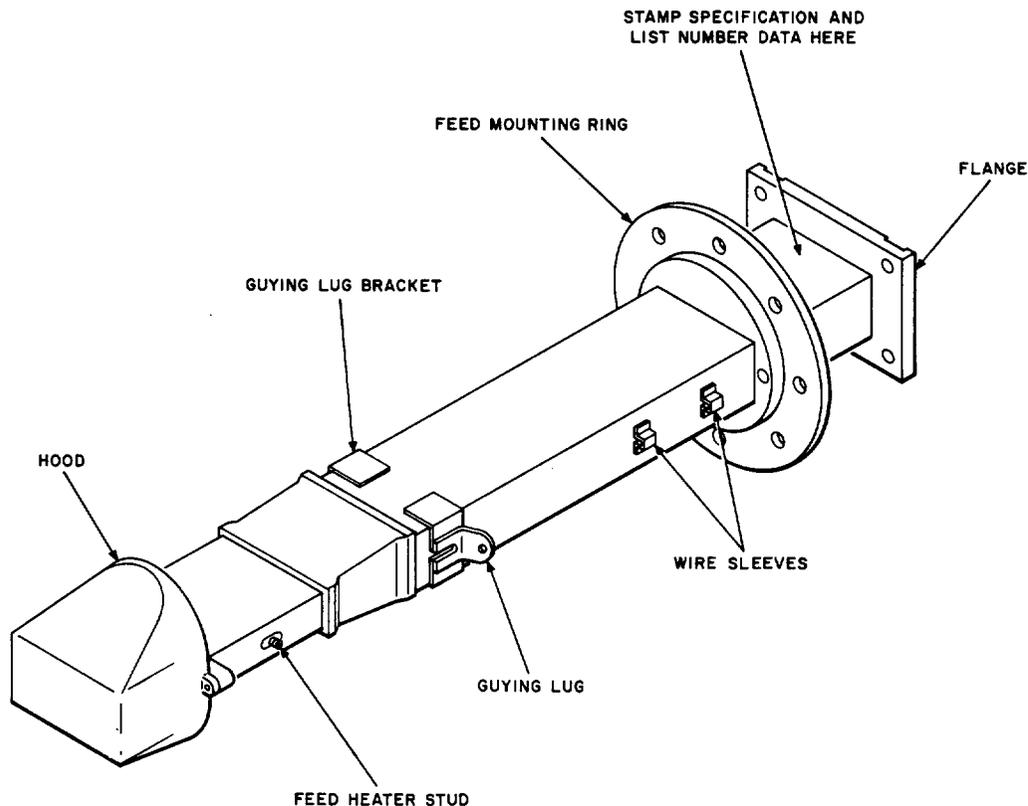
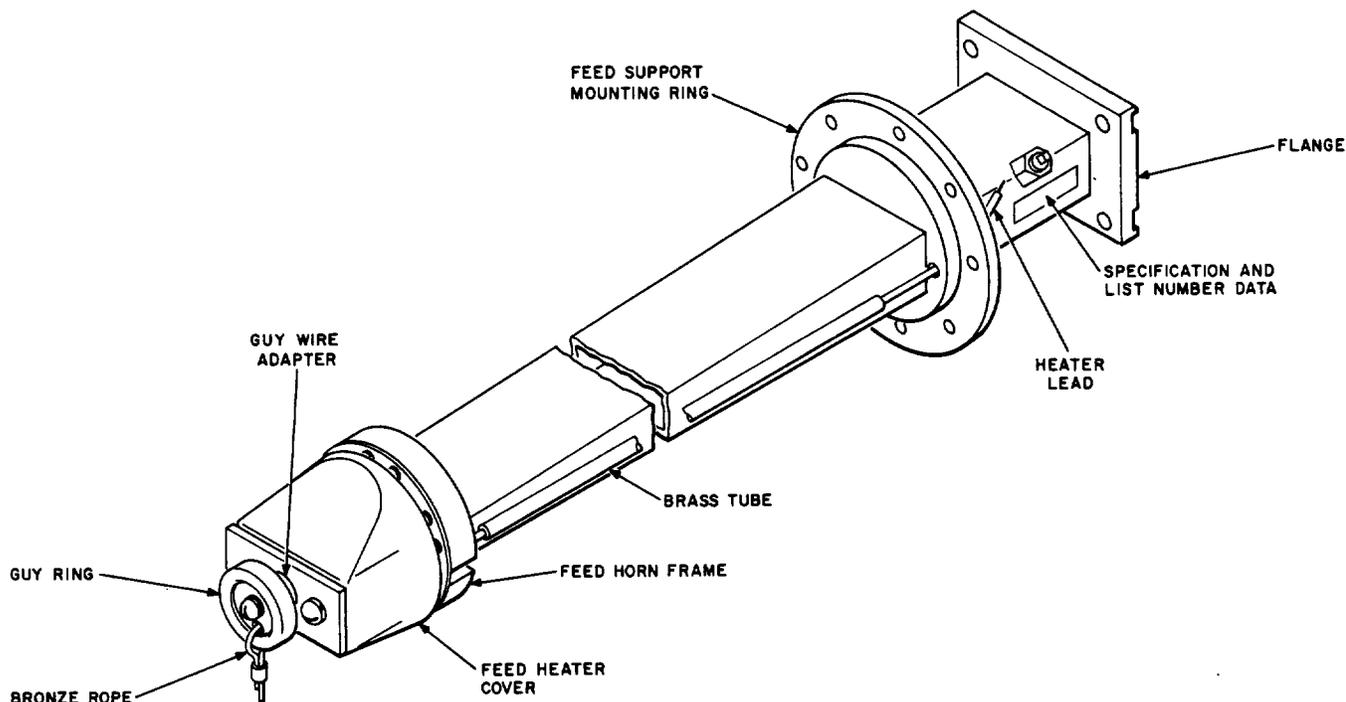
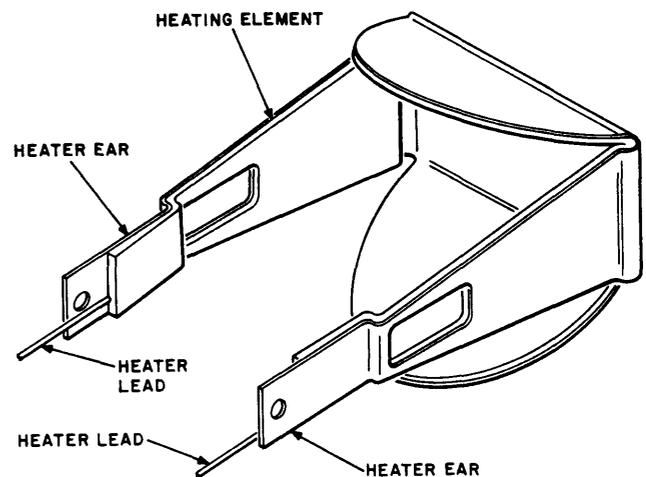
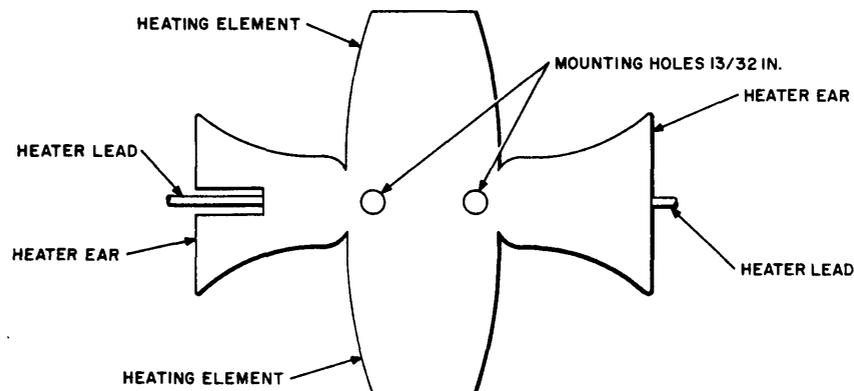

Fig. 6—Broadband Antenna Feed Assembly (Gabriel Electronics)
Fig. 7—Broadband Antenna Feed Assembly (Technical Appliance Corporation)
Fig. 11—Feed Heater Assembly (Gabriel Electronics)
Fig. 12—Feed Heater Element (Technical Appliance Corporation)
4.04 The feed assemblies are supplied by more than one manufacturer and there are minor differences in appearance. A Gabriel Electronics feed is shown in Fig. 6 and a Technical Appliance Corporation feed is shown in Fig. 7. The feeds are mechanically and electrically interchangeable with the following exceptions: The guy assemblies and feed heaters from one manufacturer cannot be used with another manufacturer's feed assemblies.
4.10 The feed assembly may be supplied by Gabriel Electronics or Technical Appliance Corporation (TACO). The guying assemblies used on the two feed assemblies, while similar in appearance, are different in length. The guy assembly attaches to the end of the Taco feed and approximately to the center of the Gabriel feed as shown in Fig. 6 and 7.
- (b) Pull the end of the loop in the tiller rope from the clamp and pass it through the guying lug on the antenna feed (Fig. 6).
4.15 The feed heater associated with the Gabriel feed (Fig. 11) is different from that associated with the Taco feed (Fig. 12). To install the heater on the Gabriel feed, proceed as follows:
- (b) Thread the wires through the slots on the guying lug brackets until the heater is positioned over the hood on the antenna feed (see Fig. 6). Engage the mounting holes in the heater ears with the threaded studs on the feed.
- (b) Thread the heater wires through the feed horn frame (Fig. 7) and down through the brass tubing on the side of the feed. Continue feeding the wires through until the heater element (Fig. 12) is seated on top of the feed horn.